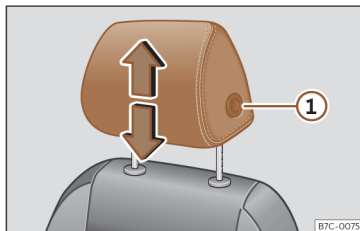
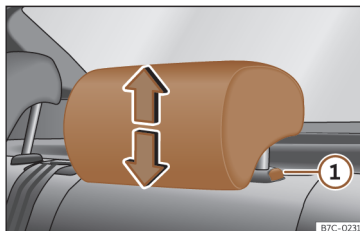

Fig. 98 Front seat: headrest adjustment.
Fig. 99 Rear headrest: headrest adjustment.
- Grab the sides of the headrests with both hands and push upwards to the desired position. To lower it, repeat the same action, pressing the ①»» Fig. 98 »» Fig. 99 button on the side.
- Press the side button >>> Fig. 98 ① and remove the headrest.